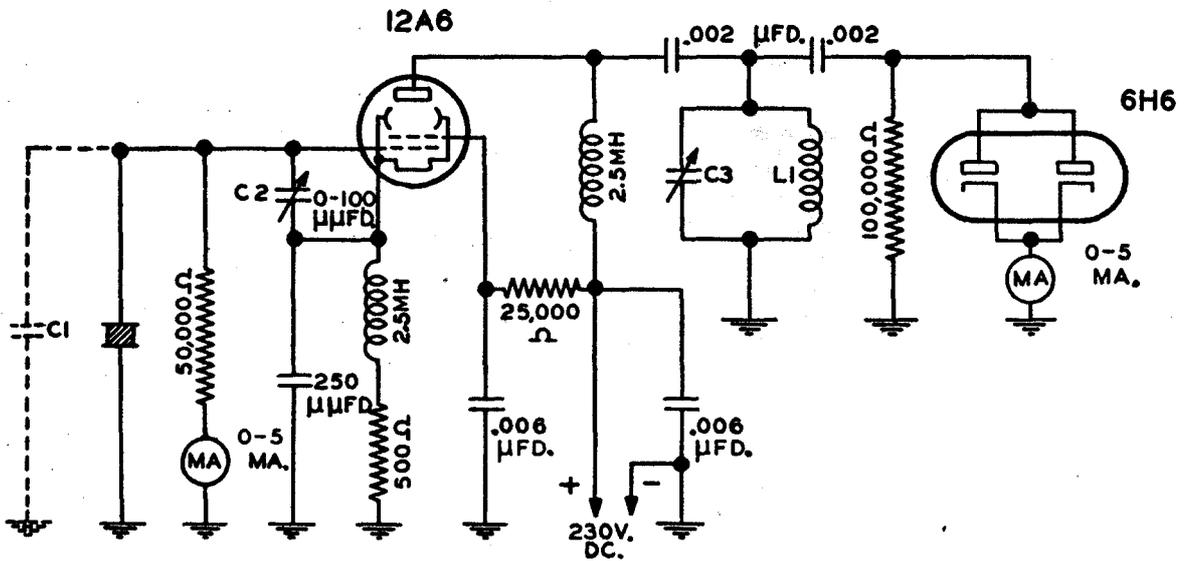

Fig. 23 Transmitter—Typical Crystal Oscillator Circuit (Dwg. No. 781A)
5.5.2. The circuit shown on Figure 23 should be employed in testing and calibrating replacement quartz crystals for operation in the crystal oscillator circuit of the transmitter unit of the Navy Model TCS Series Radio Equipment. The following procedure must be used in the adjustment of the circuit.